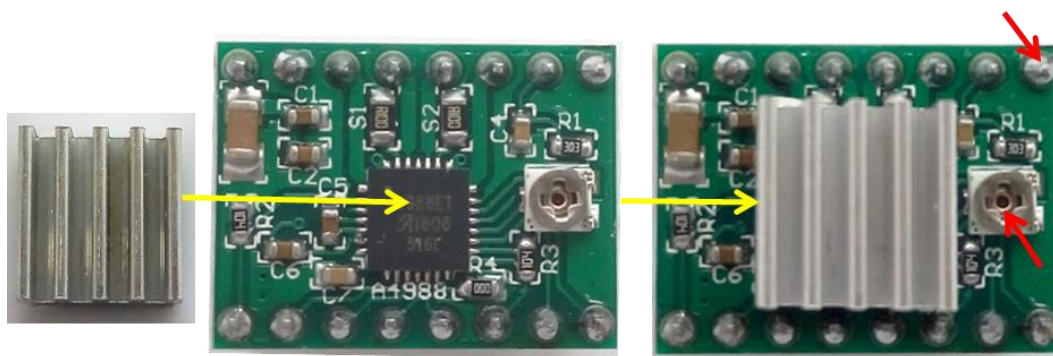

Fig. 27
Step 2. There are 5 pieces of A4988 (B11) in the package. Prepare 4 pieces (the rest is for backup) of A4988 with Al cooling fin, as Figure 27 shows. **Make sure the Al fin does not touch the pin on A4988 to avoid any short passing.**
*A method to calculate the drive current of A4988: use a multimeter to test the voltage between the two points on A4988, which is pointed out by two red arrows as shown in Fig. 27; then the current (I) can be calculated by the equation of $I=U/0.8$. Normally the voltage ranges from 0.75 to 1V, so the current should be in the range of 0.94~1.25A.